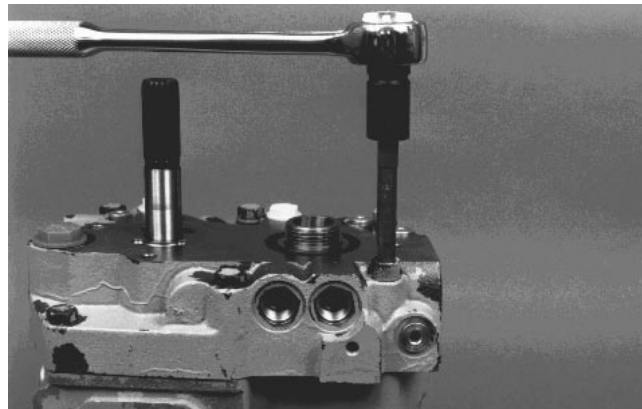

Figure 42
2. Remove six (6) screws which retain center section to housing (Fig. 42). Note position of longer and shorter screws. The cylinder block springs will cause the center section to separate from the housing.